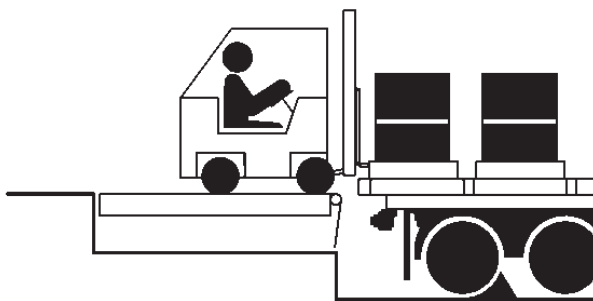

Figure 23
6. Proceed with loading or unloading (see Figure 23).